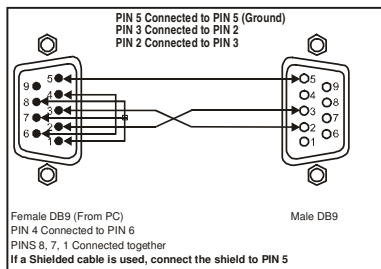

Figure 6: Connecting a PC without using a Null-modem Adapter
- Connect the RS-232 DB9 port on your PC to the RS-232 DB9 rear panel port on the Master **VP-4x4xl** unit, as Figure 6 illustrates